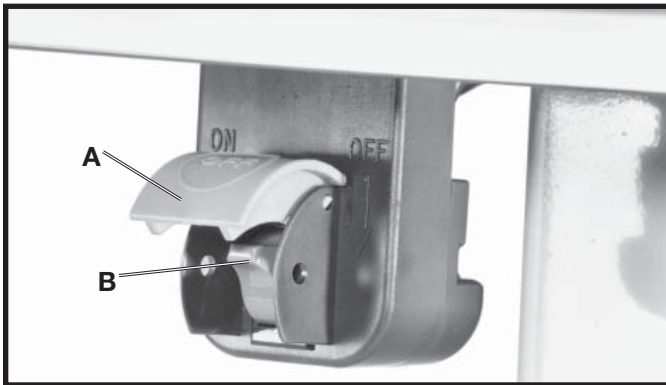

Fig. 55
1. The ON/OFF switch is located underneath the switch shield (A) Fig. 55. To turn the saw “ON”, move switch lever (B) to the up position.